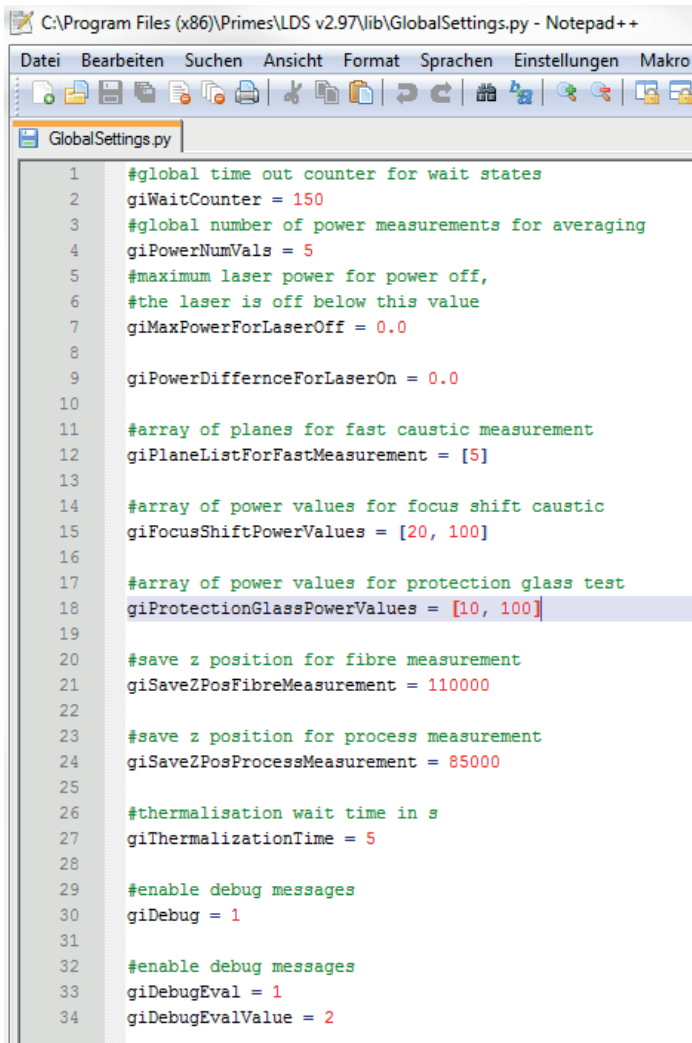

Fig. 21.28: Editing the file *GlobalSettings.py*
1. Open the file with an editor (e. g. Notepad++) as shown in Fig. 21.28.